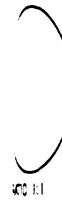

fig. 4. Liss
(1) Start the oscilloscope as explained in paragraph 10.
(2) Turn the BEAM switch and COARSE FREQUENCY control to OFF and connect the standard frequency source between the X SIGNAL INPUT and GROUND terminals.
(3) Turn the BEAM switch ON and adjust the X GAIN control until a convenient horizontal deflection is obtained on the screen.
(4) Connect the unknown signal between the Y SIGNAL INPUT and GROUND terminals.
(5) Adjust the attenuator switch and Y GAIN controls until a pattern of convenient shape is seen on the screen. This pattern is called a Lissajous figure. Typical patterns are shown in figure 4.